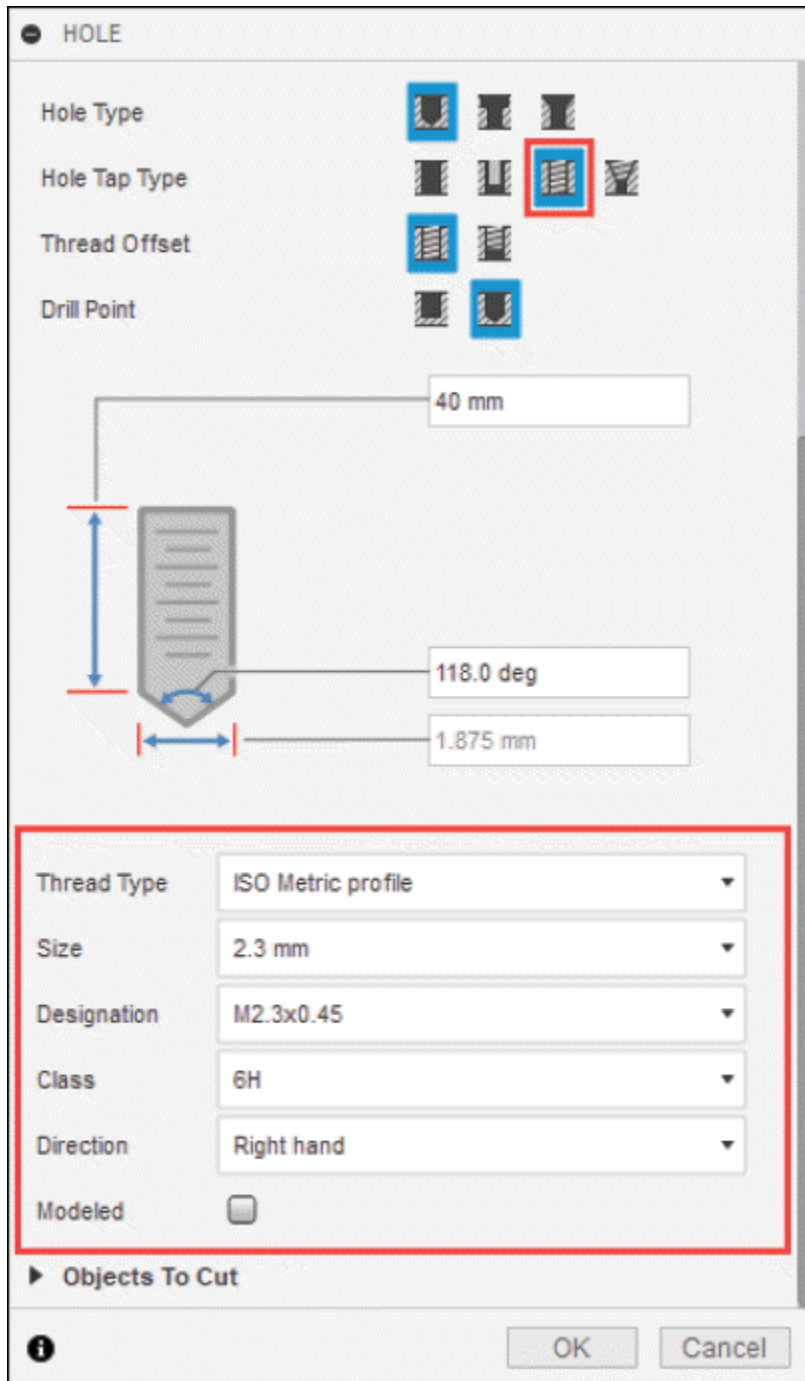

Figure-47. Options for tapped hole tap type
- Select the **Tapped** button to create holes as per their class and designation in standard hole profile database; refer to Figure-47.